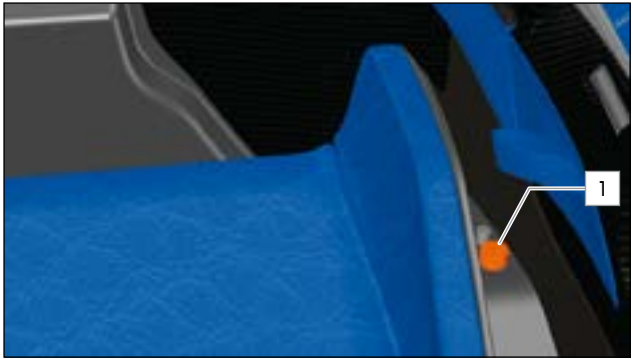

FIG.102 BATTERY MAINTAINER CONNECTOR NEXT TO THE PASSENGER SEAT
- ▶ Push the connector of the charging cable into the connector socket 1 (» Fig.102) until it is heard to click into place.
- ▶ Connect the charger to the connection socket 1 (» Fig.102) located next to the passenger seat.